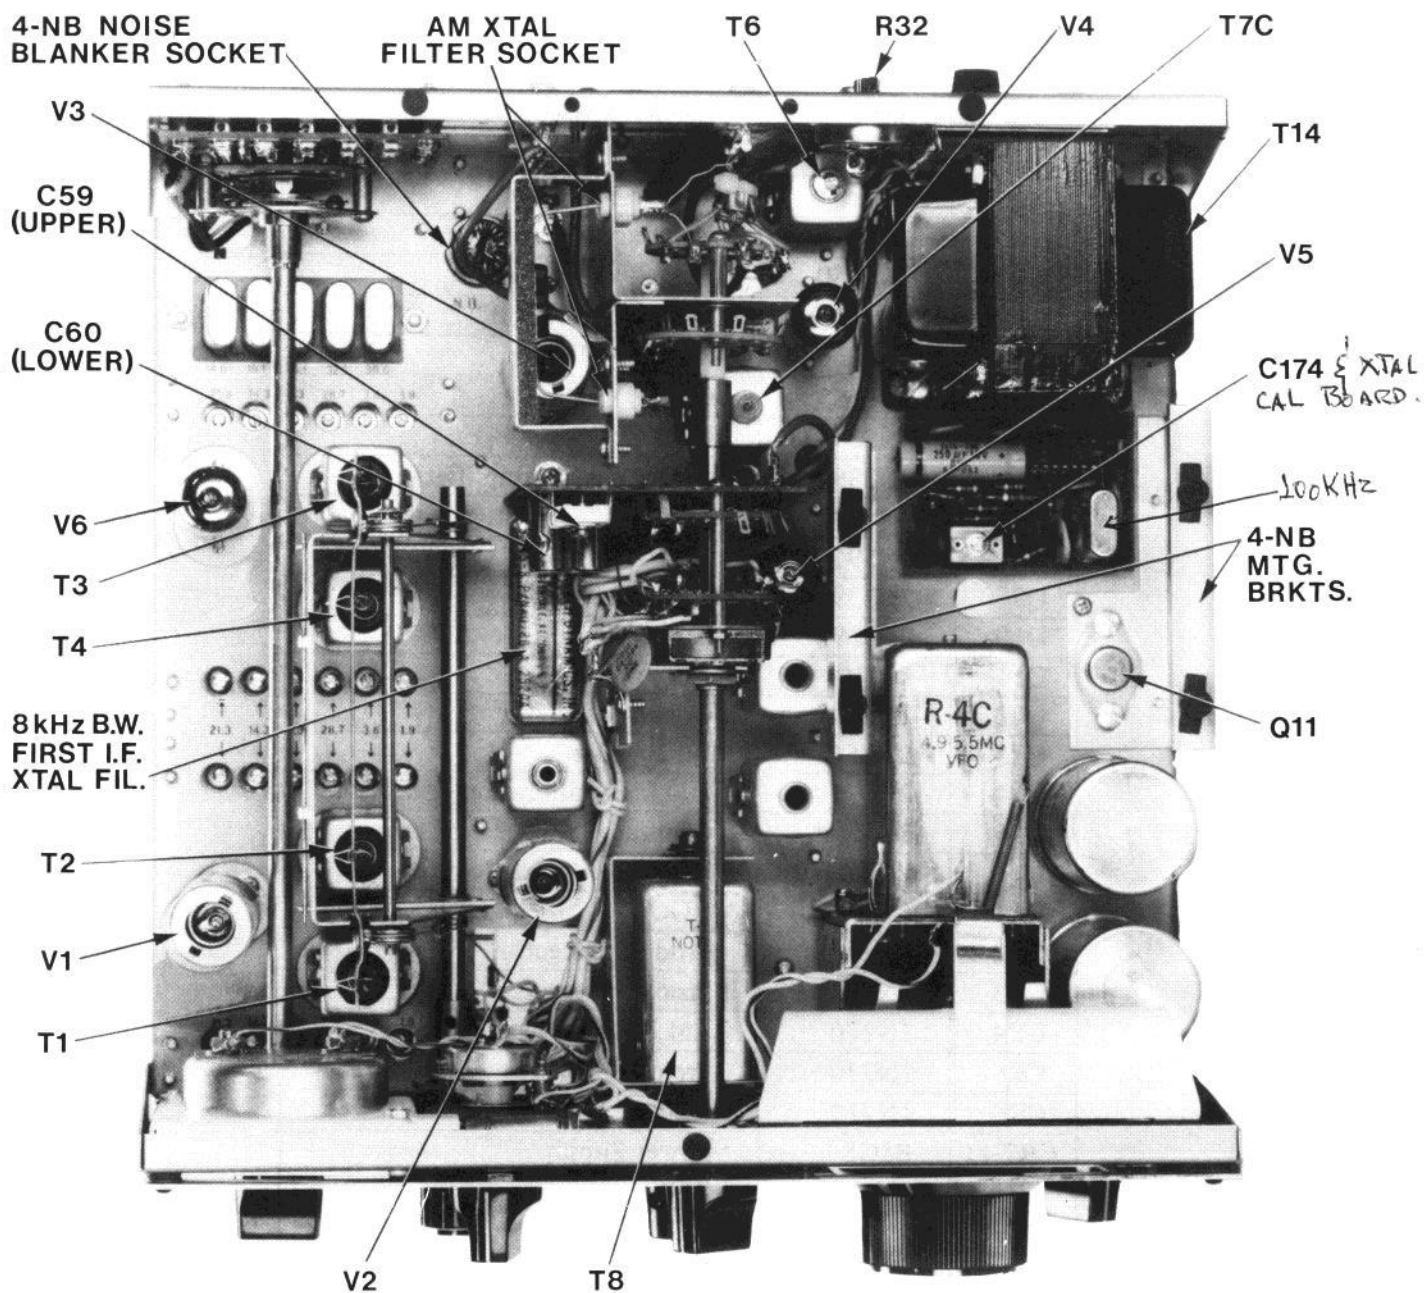

Figure 5-1. Alignment Locations, Top View
- g. Refer to figure 5-1. Adjust the four trimmers marked 28.7 for maximum S Meter reading. If the calibrator signal is insufficient to produce an adequate S Meter indication, remove the 47 Ohm resistor from the antenna input, and connect the signal generator to the antenna input. Set the R-4C FUNCTION switch to EXT. MUTE, adjust the signal generator to 28.7 MHz, and set the generator output level to cause an S Meter indication of approximately S-7. Adjust the four trimmers marked 28.7 for maximum S Meter indication.
- b. Refer to figure 5-1 and determine the location of C174.